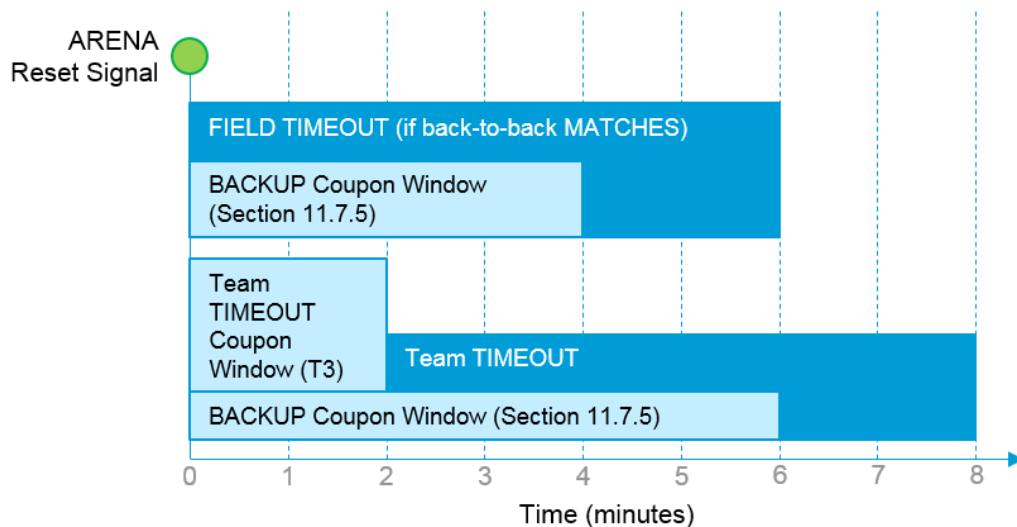

Figure 12-4 TIMEOUT Timeline
- T3.** If an ALLIANCE wishes to use their TIMEOUT, the ALLIANCE CAPTAIN must submit their TIMEOUT coupon to the Head REFEREE within two (2) minutes of the ARENA reset signal preceding their MATCH. If there is no preceding MATCH, the TIMEOUT coupon must be submitted no later than two (2) minutes before the scheduled MATCH time. The TIMEOUT will begin two (2) minutes after the ARENA reset signal (i.e. at the end of the TEAM TIMEOUT Coupon Window depicted in Figure 12-4)